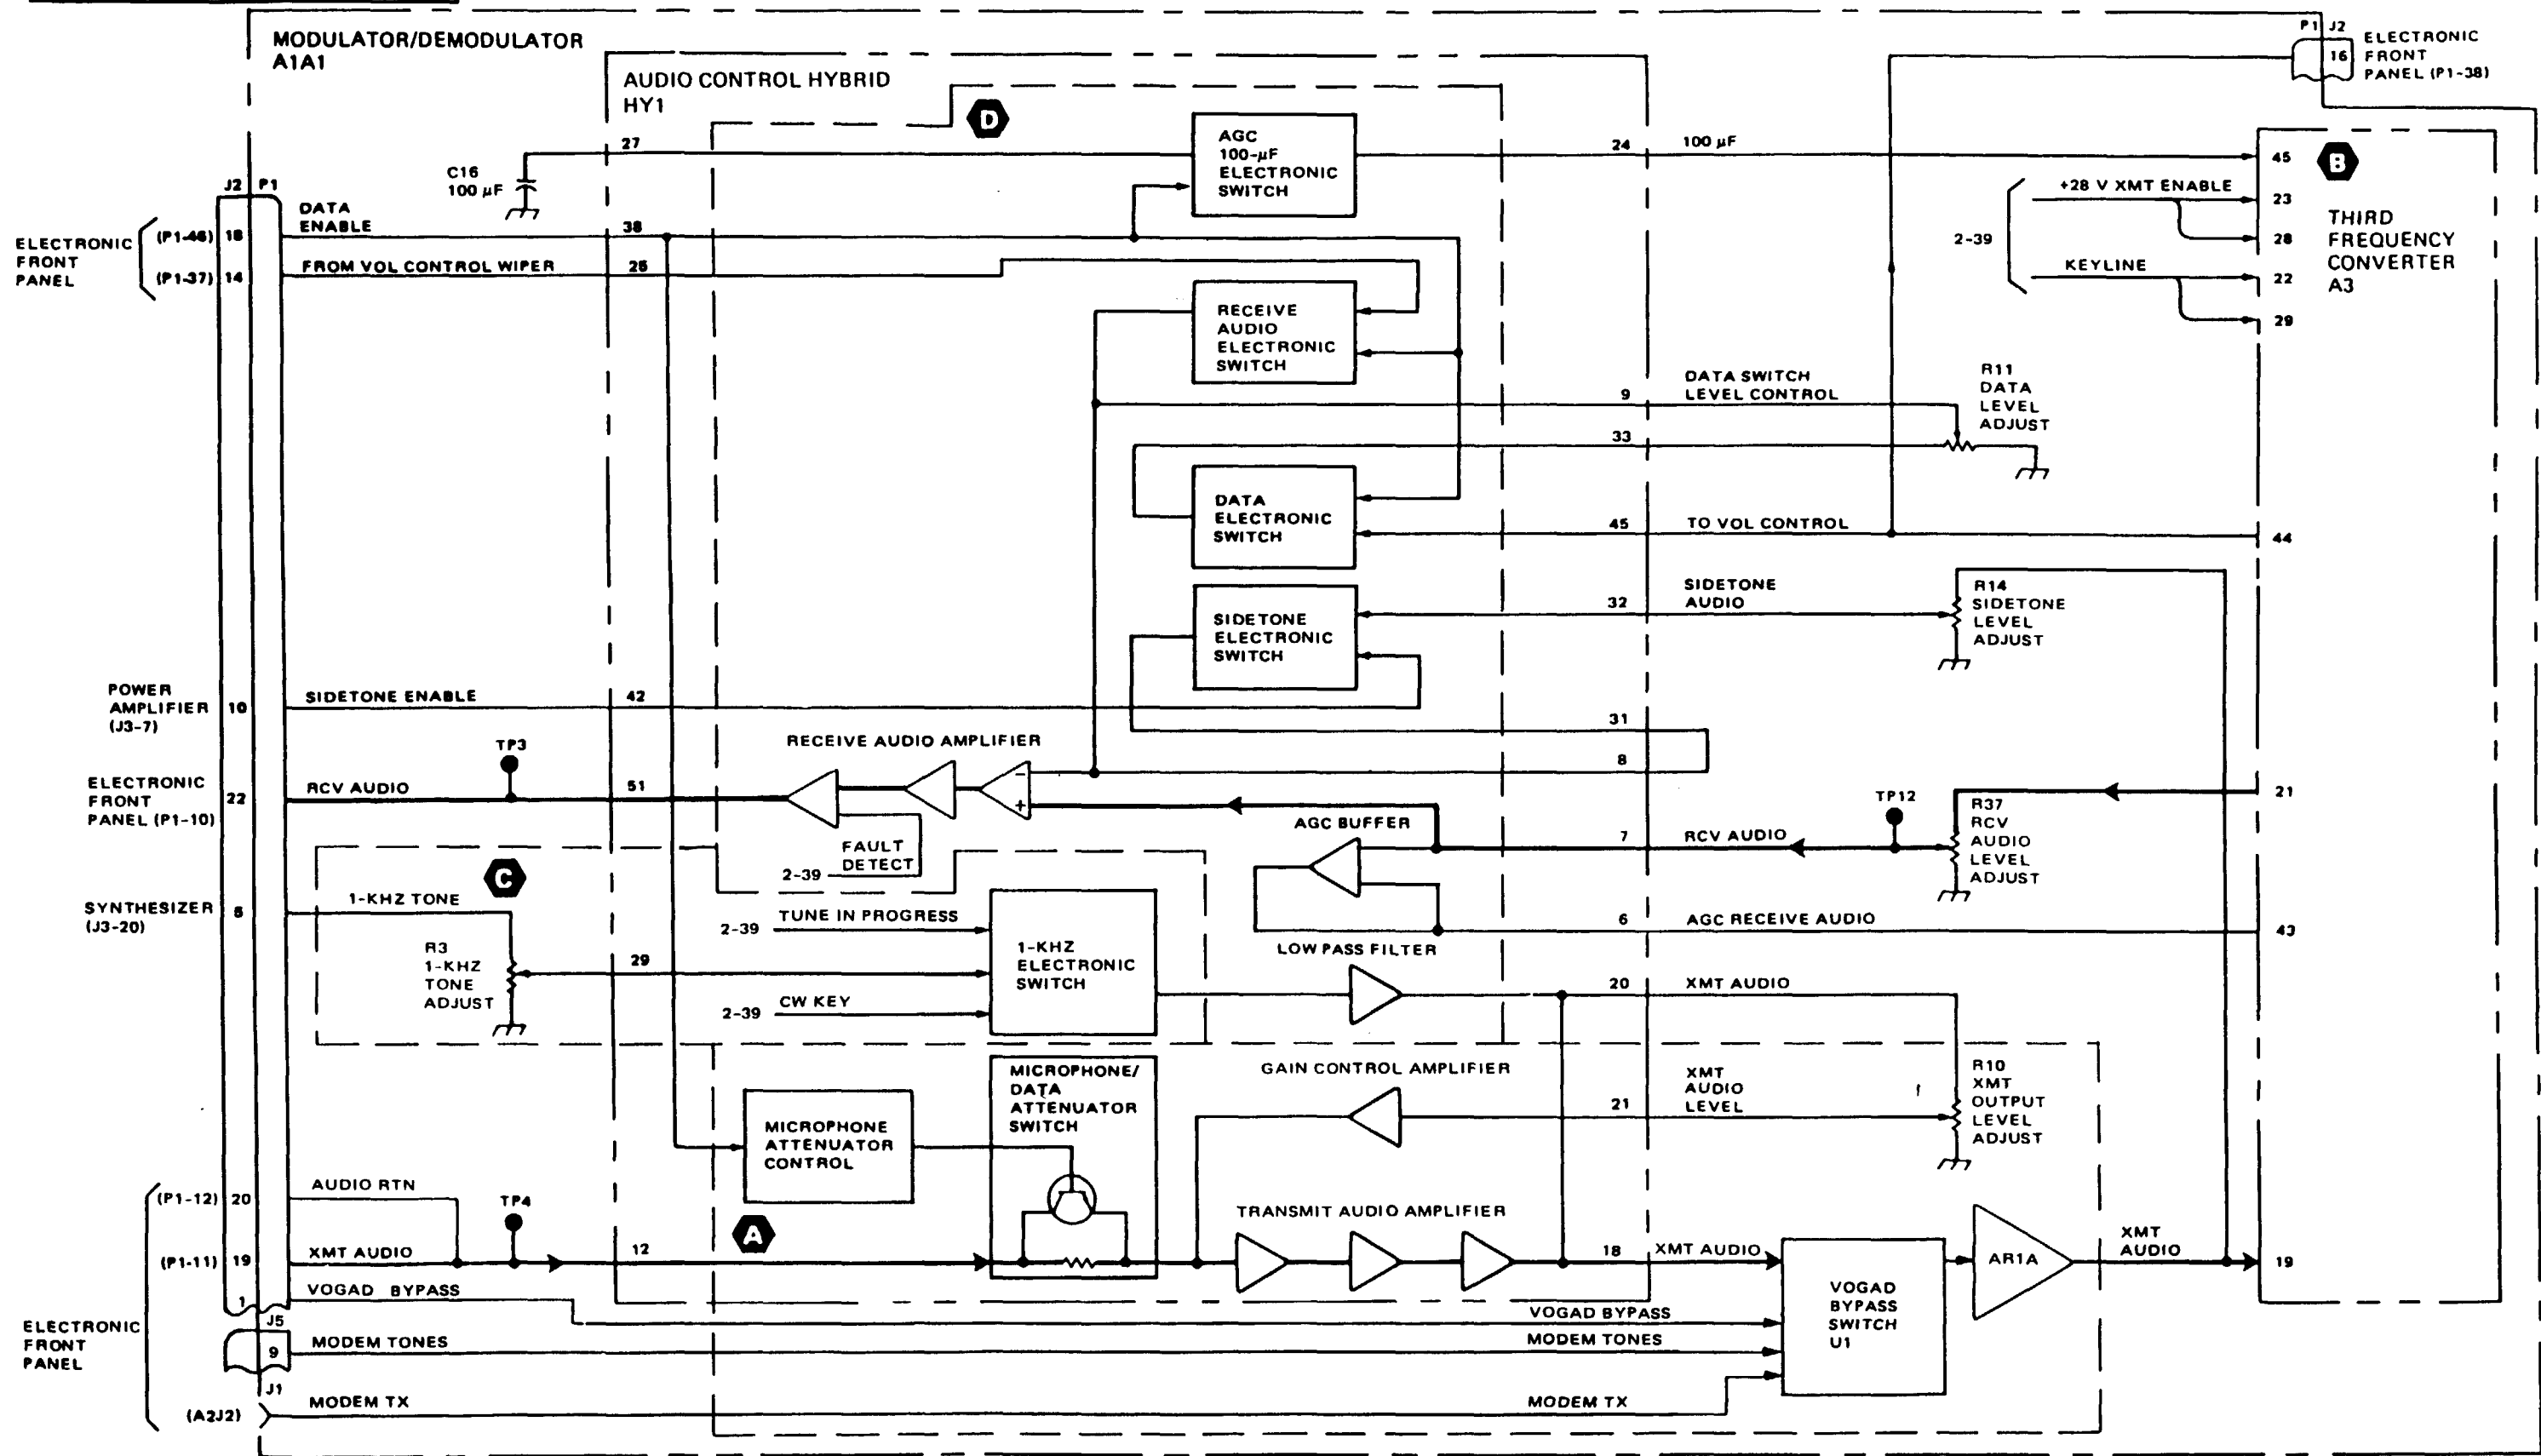

Figure 2-15. Audio Control Hybrid (Sheet 1)
**AUDIO CONTROL HYBRID (3 of 6), fig 2-15, sh 2**